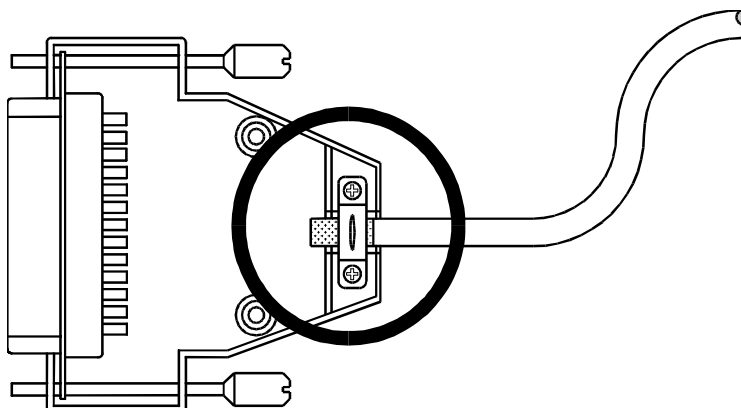

Fig. 2: Shielding in conformity with the EMC standards
- **When male connectors are used:** Only use metallised connectors, e.g. Sub-D connectors with metallised housing (see Fig. 2). Please take care of direct connection here as well.